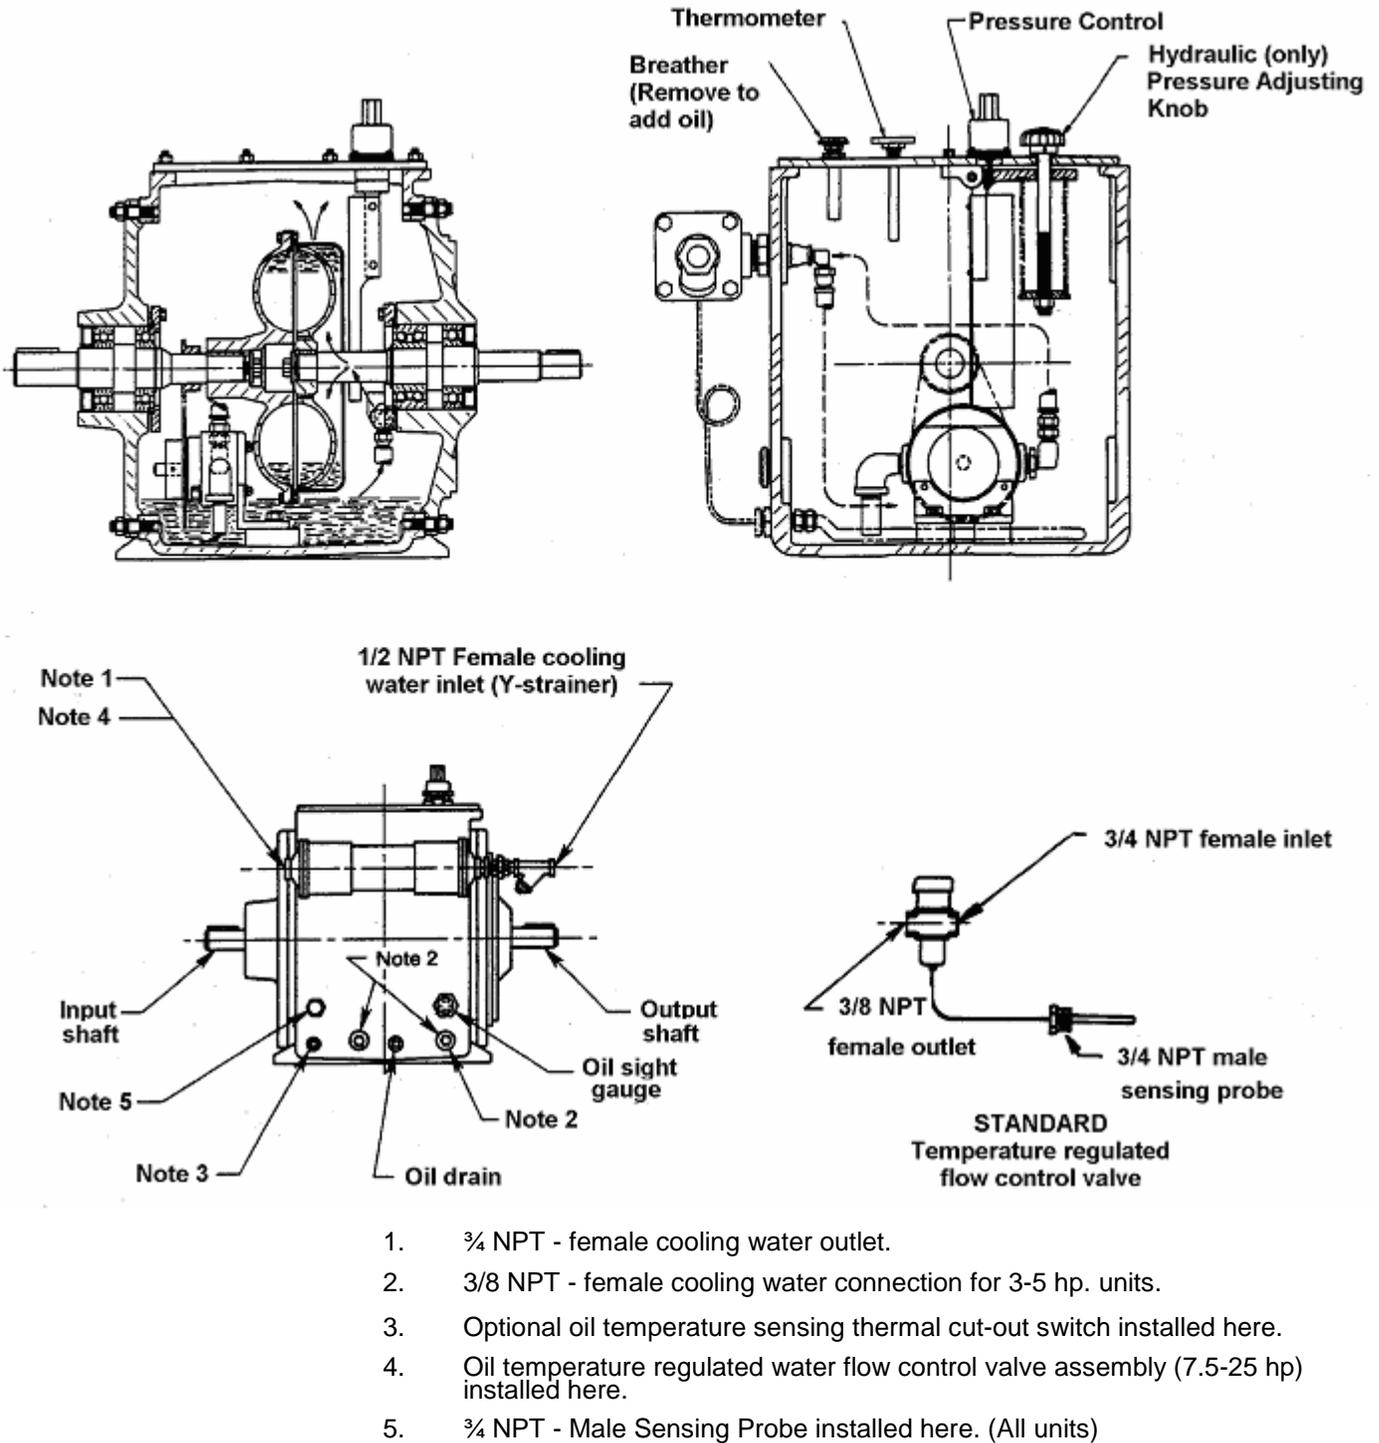

Figure 1
DESCRIPTION: The 6B/8C Hydroconstant (see figure 1) drive consists of a fluid coupling designed to allow continuous, smooth variance of output shaft speed in direct response to a fluid pressure signal as may be generated by a centrifugal pump connected to the output shaft. The coupling input shaft rotates at the relatively constant speed of an electric motor.
5. Open discharge valve to permit maximum required system flow. Observe discharge pressure gauge. Discharge pressure should rise to the value observed in step 3 (after falling when valve is opened). Change the setting to suit operating condition by turning pressure adjusting knob (see Figure 1).